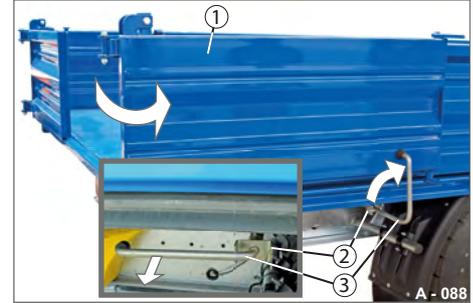

Fig. 73 Swinging gate secured
- ▶ Pull the door stay (Fig. 73/3) out of the holder (Fig. 73/2).
- ▶ Rotate the door stay upwards about 90° and fasten the swinging gate (Fig. 73/1).
- ▶ Pull on the door stay (Fig. 73/3) and lock it in the holder (Fig. 75/3).